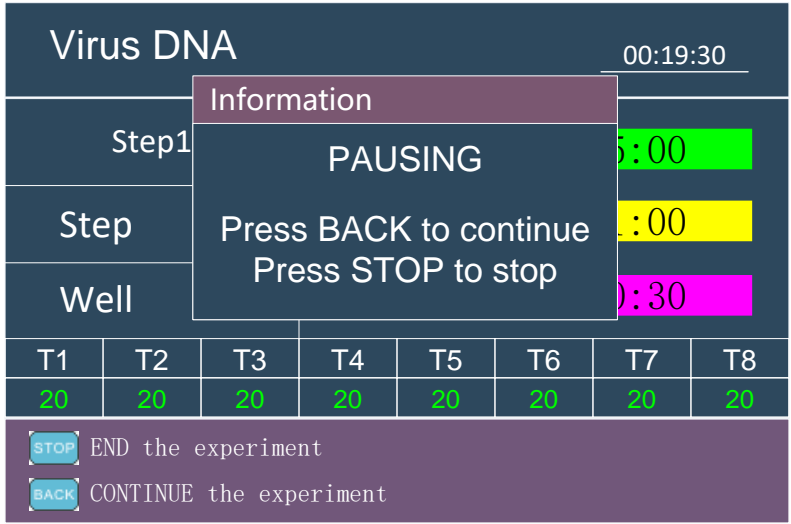

Figure 4-7 Experiment Running Interface - Pause Prompt
- ▶ Press **STOP** to pause the experiment and there will be a prompt pop up reminding user that **'Press back to continue running the experiment and press stop to stop running the experiment'** as shown in the figure 4-7. While the experiment is running, the corresponding time of the current step will blink and enter the countdown mode.